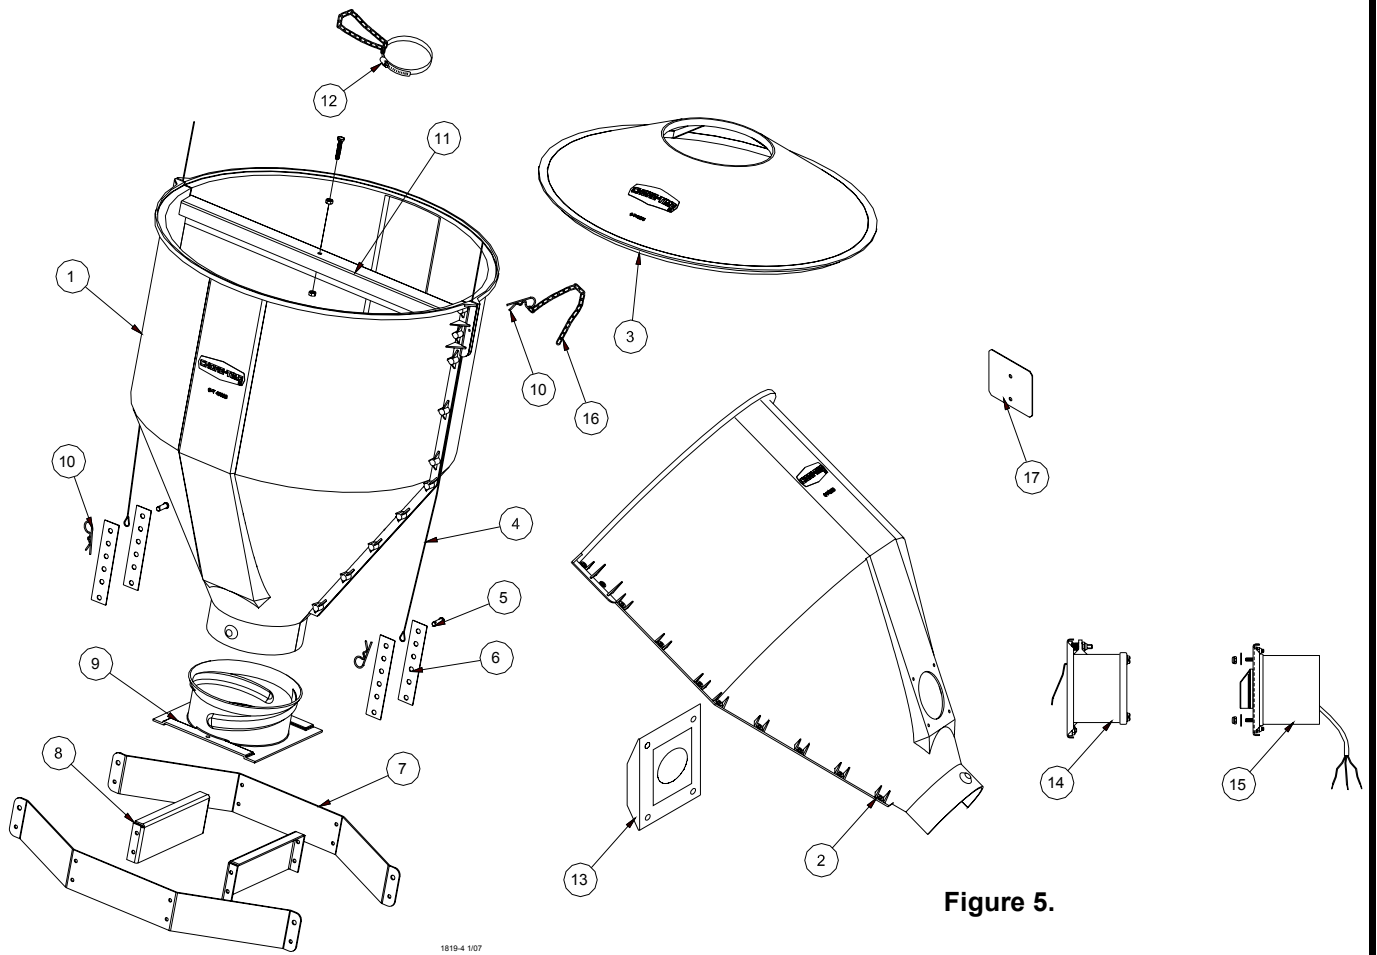

Figure 5.
1. If hopper assembly was ordered with lower hopper switch, assemble the switch to the machined hopper half. See **Figure 5**.